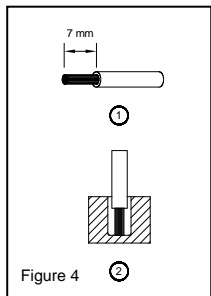

Figure 4
(1)	0.82-3.3	18-12	9.3	8.1
(2)	0.82-3.3	18-12	6.2	5.4
To secure reliable and shock proof connections, the stripping length should be 7 mm (see Fig. 4 (1)).
Please ensure that wires are fully inserted into the connecting terminals as shown in Fig. 4 (2).